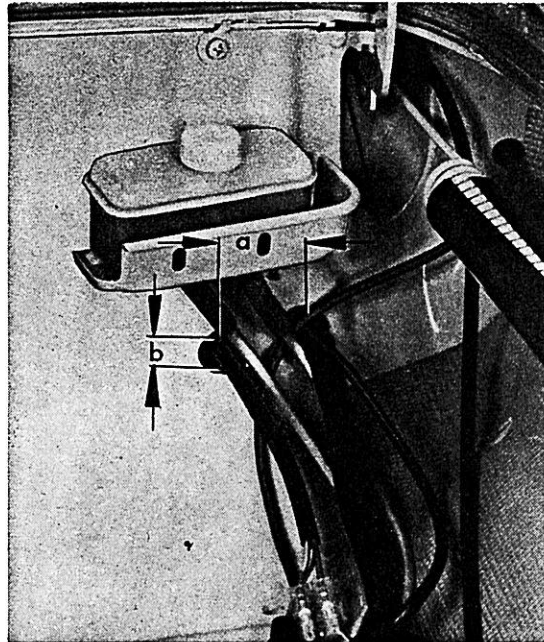

Fig. 1
- 3 – Drill 16 mm hole (b) for the cable harness and fit grommet in hole (Fig. 1).
Route cable through grommet (Fig. 1).